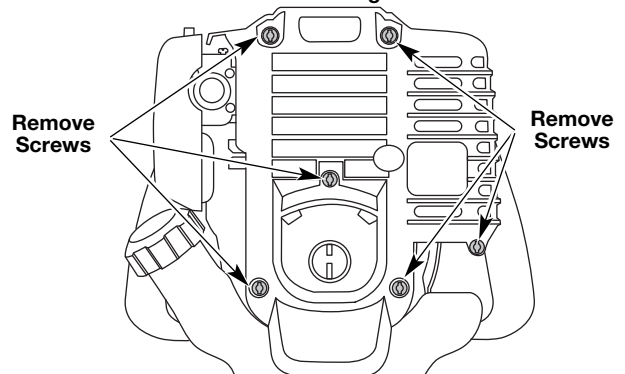

Fig. 34
- Remove the six (6) screws on the back of the engine cover with a Flat-head or T-25 Torx screwdriver (Fig. 34).
- Remove the engine cover (Fig. 34).
1. Stop the engine and allow it to cool. Remove the six (6) screws on the back of the engine cover with a Flat-head or T-25 Torx screwdriver (Fig. 34).